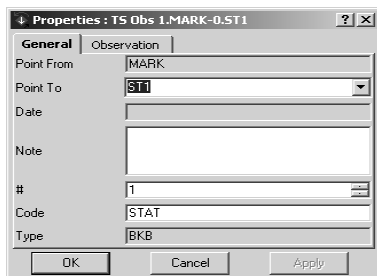

Figure 4-37. TS Properties – General Tab
2. On the *Properties* dialog box, click the *General* tab (Figure 4-37).